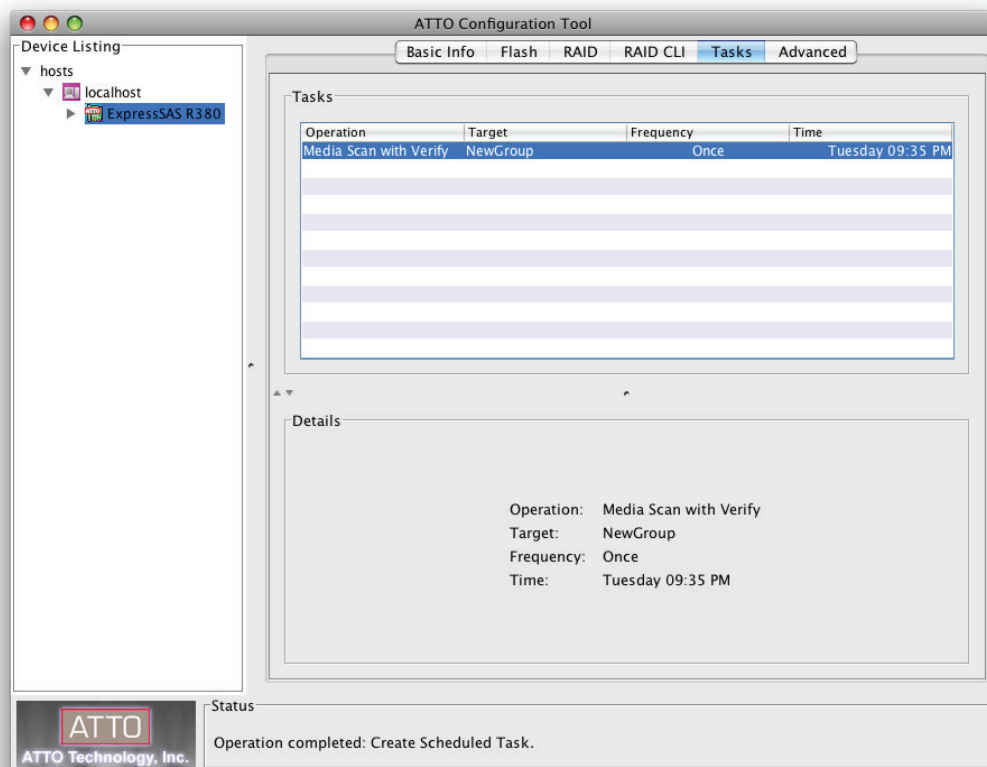

Figure 6
- The **Tasks** tab provides information about user-scheduled hard drive health maintenance. In this tab, you can reschedule or delete tasks. See **Figure 6** on page 5.